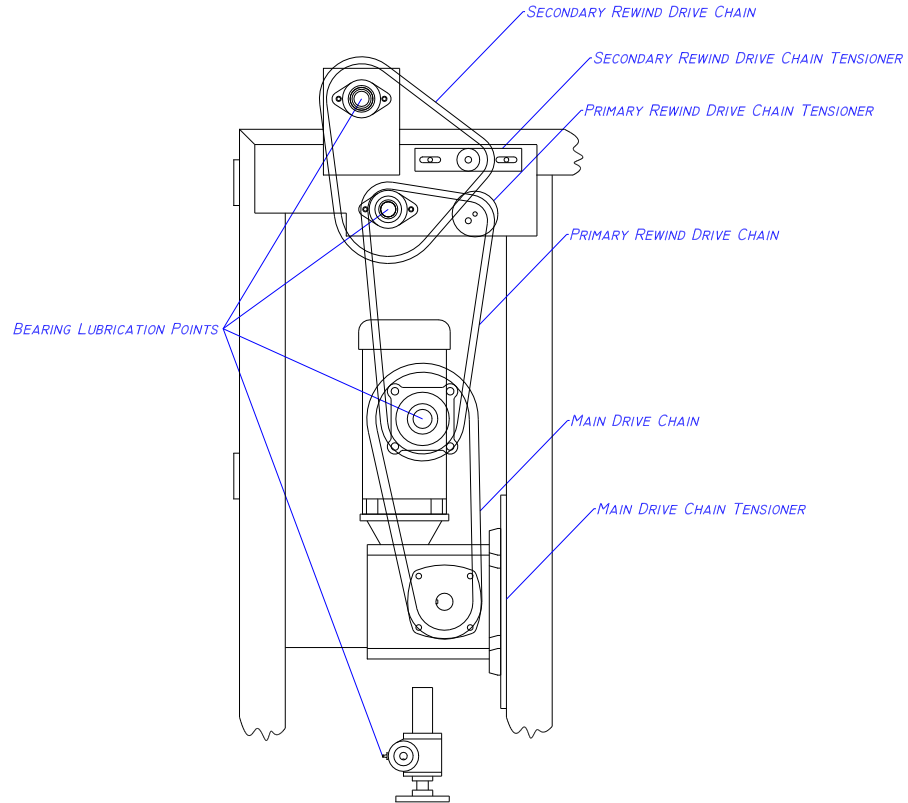

Figure 10: Bearing Lube Diagram
The SRA1000 utilizes electronic, mechanical and, pneumatic technology to perform the increment and application operations. The Nip Roller pressure is supplied by two (2) pneumatic cylinders, air flow to these cylinders is directed by an electro-pneumatic valve. The Drive Roller is chain coupled to a DC motor driven gearbox, control signals for this motor are generated from a DC drive card. The Unwind Brake is a pneumatic disc brake coupled to the Unwind Mandrel, pneumatic pressure is supplied from a precision regulator, and flow to the Unwind Brake is directed through a manually shifted operator control switch. The Rewind Clutch is a pneumatic single disc clutch coupled to the Rewind Mandrel, pneumatic pressure is supplied from a precision regulator, flow to the Rewind Clutch is directed through a manually shifted operator control switch. The SRA1000 utilizes sealed self-lubricating bearings in certain locations, all other bearings that require lubrication in the system are indicated in Figure 10.